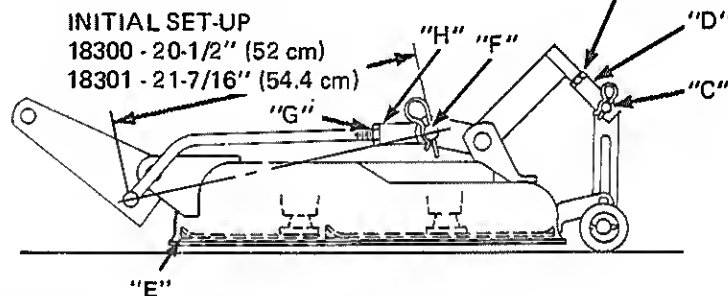
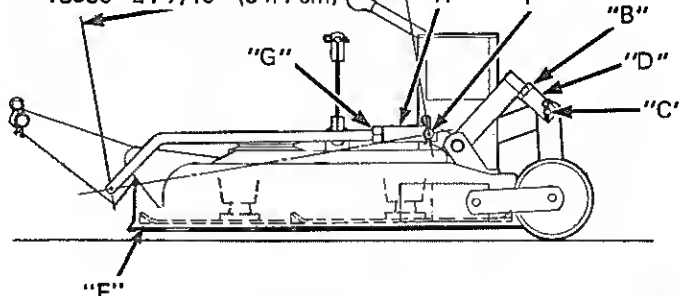

Fig. 8-2
Fig. 8-3
4. Check side to side level by measuring distance between blade tip and floor Fig. 8-2. If distance varies more than 1/16" (1.56 mm) from left hand side to the right hand, adjustment is necessary.
5. Raise mower with tractor lift and adjust side to side by turning clevis up or down on left hand side of mower. Loosen jam nut (B), remove spring cotter and clevis pin (C).
6. Rotate clevis (D) 1/2 turn to achieve a 1/32" (.78 mm) adjustment. If side of mower is too low, lengthen rod. Shorten rod if too high.
9. Check front to rear leveling by measuring the distance from the blade tip (E) Fig. 8-3 and the floor. If distance varies more than 1/8" front to back, adjustment is necessary. Adjust as follows:
10. Lift mower with tractor lift, remove pins (F) and loosen jam nuts (G) on the tie rods.
11. One turn of clevis (H) Fig. 8-2 and 8-3, will vary the rod length approximately 1/16" (1.56mm). Shorten rod to raise front and lengthen to lower. Adjust both rods same number of turns.